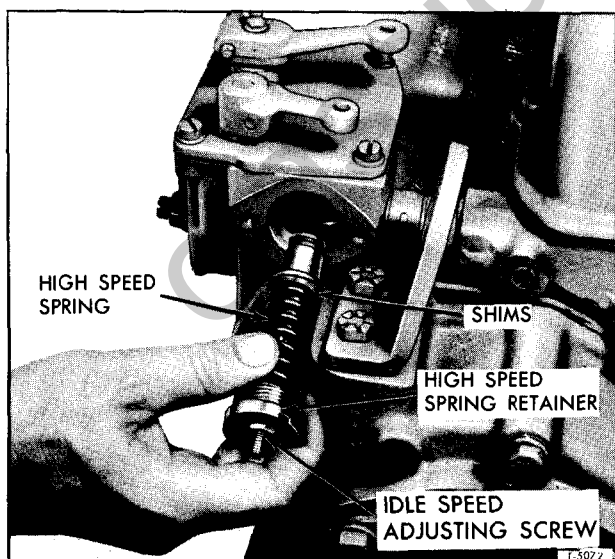

Figure 8—Adjusting Maximum No-Load Engine Speed (Typical)
- a. Remove the high speed spring retainer with tool (J-5895) and withdraw the high speed spring and plunger assembly (figs. 8 and 9).